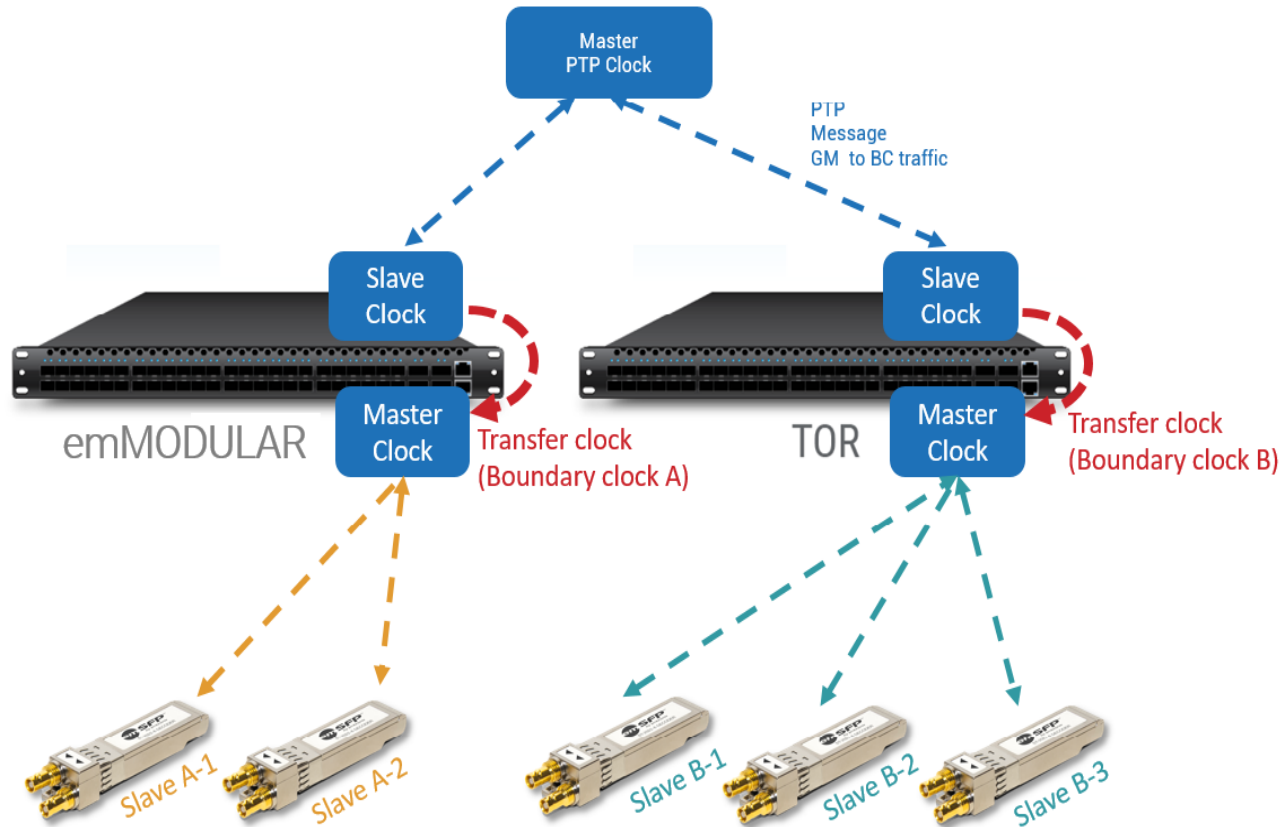

Figure 5. Boundary Clock in Details
In Figure 5., the PTP Grandmaster only sees two (2) slave clocks. Adding a slave clock to group A or group B will not impact the Grandmaster. These groups can grow or change as required.